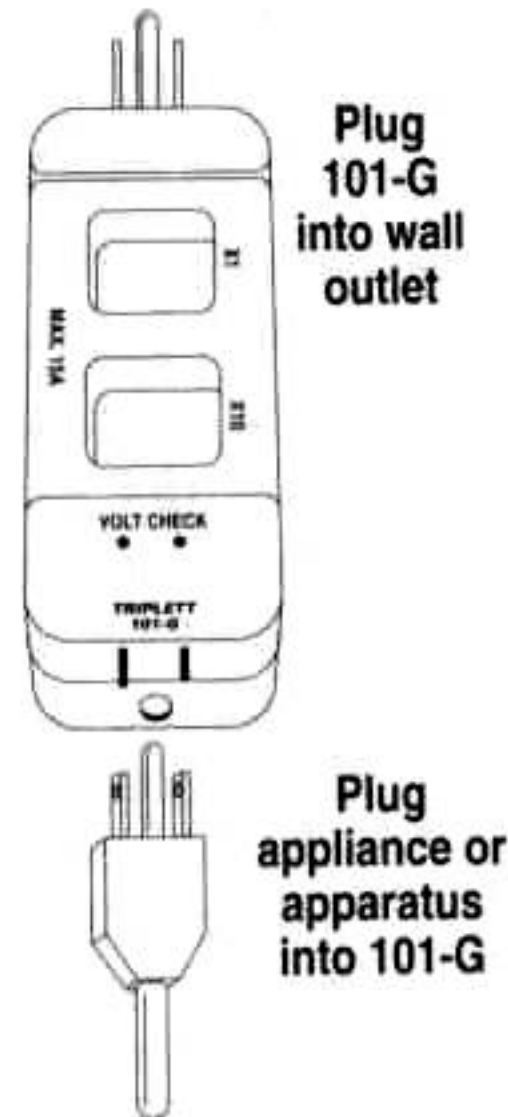

FIGURE 1
3. Plug appliance or apparatus to be measured into the outlet of the Model 101-G. Plug Model 101-G into wall outlet. (Figure 1)